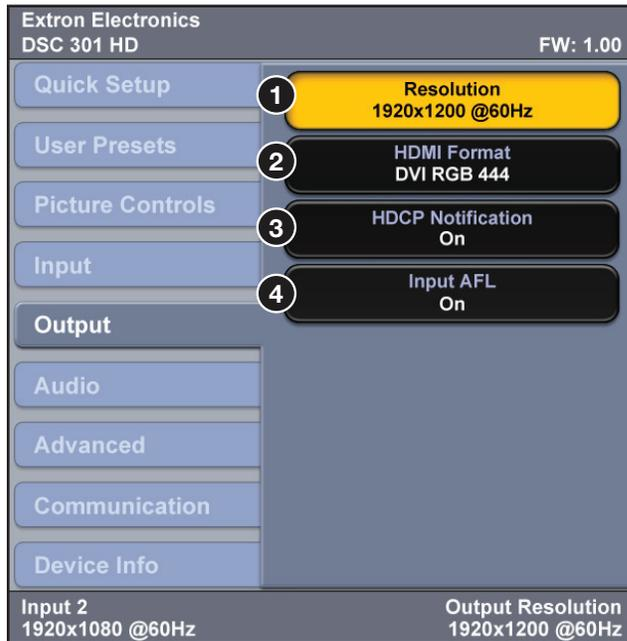

Figure 8. OSD Menu – Output Submenu
This submenu allows you to configure the output (see figure 8).
Input AFL — Select this option (see figure 8, ④, on the previous page) to turn the Extron Accu-Rate Frame Lock (AFL) on or off.